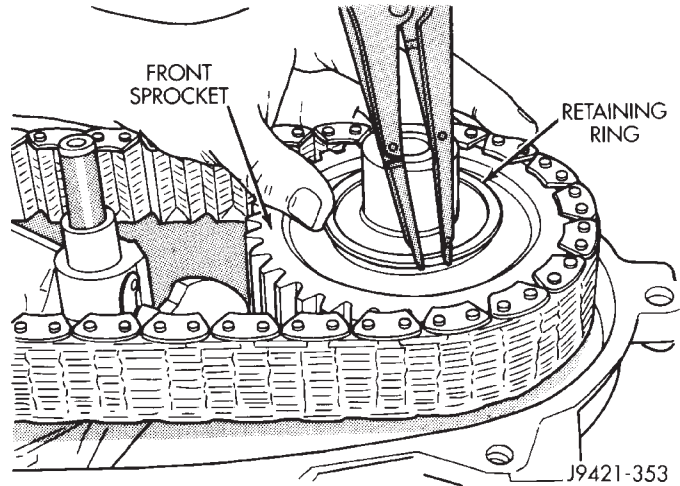

Fig. 91 Front Sprocket Retaining Ring Installation
- (5) If mainshaft and sliding clutch were unseated during chain installation, align and reseat mainshaft in input gear and hub. Then reseat synchro hub in sliding clutch. Press synchro struts inward to ease clutch back onto hub.
- (6) Install front sprocket retaining ring (Fig. 91).
(7) Realign sliding clutch on synchro hub if necessary. Press synchro struts inward to ease realign-